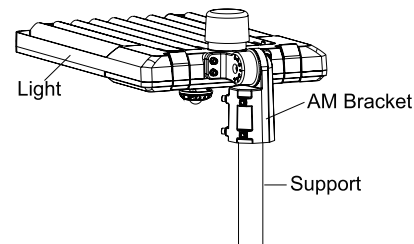

Figure 10
Step 2: Place the bracket into the pole and lock the four bolts. (Fig. 10)